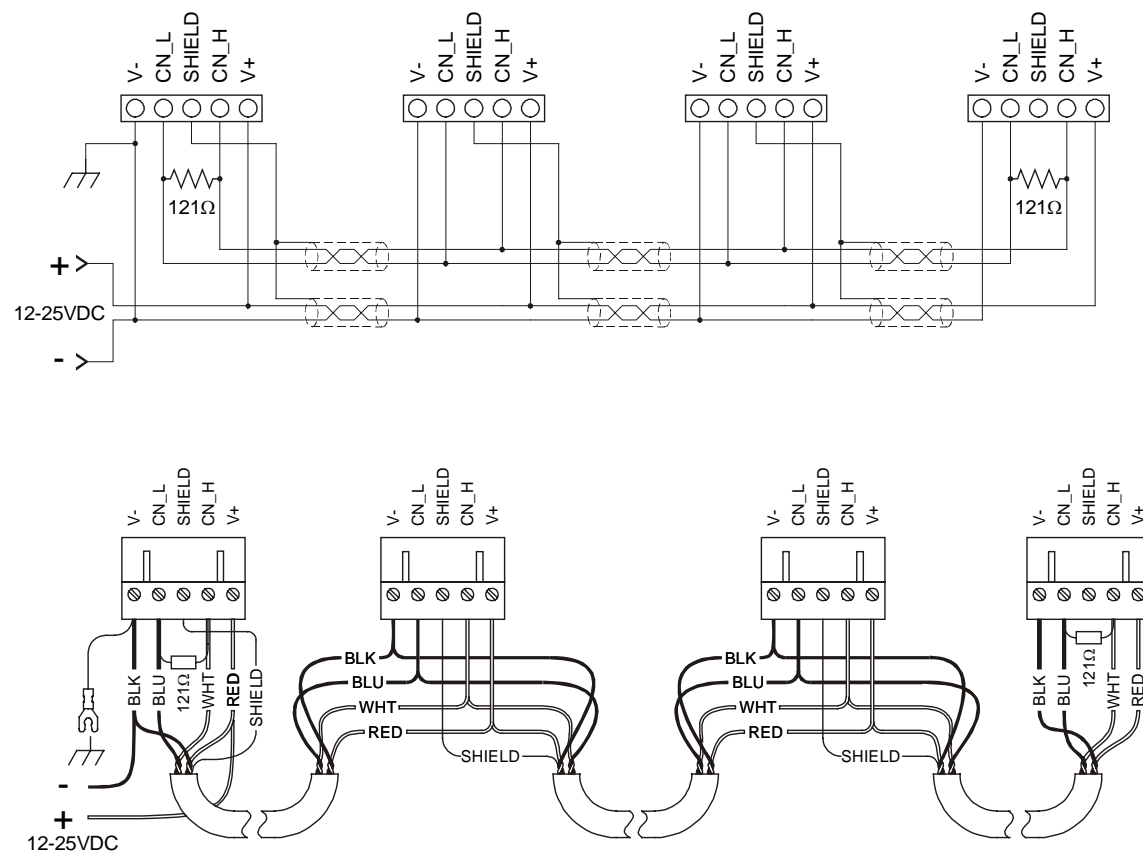

Figure 2.12 – CAN Wiring
c. **CAN Wiring Rules** (See Figure 2.12)
4. To ground the cable shield, connect to pin 3 as shown in Figure 2.12.